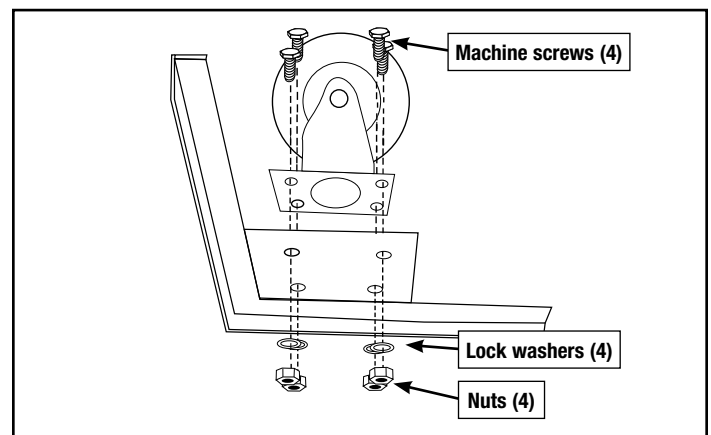

Figure 2. Attach casters to base (shown upside down for installation).
Turn the base upside down (the lip of the base facing down). Install each castor with four machine screws, four (4) lock washers and four nuts. Machine screw heads should be on the castor side of assembly to allow casters to move freely (Figure 2).